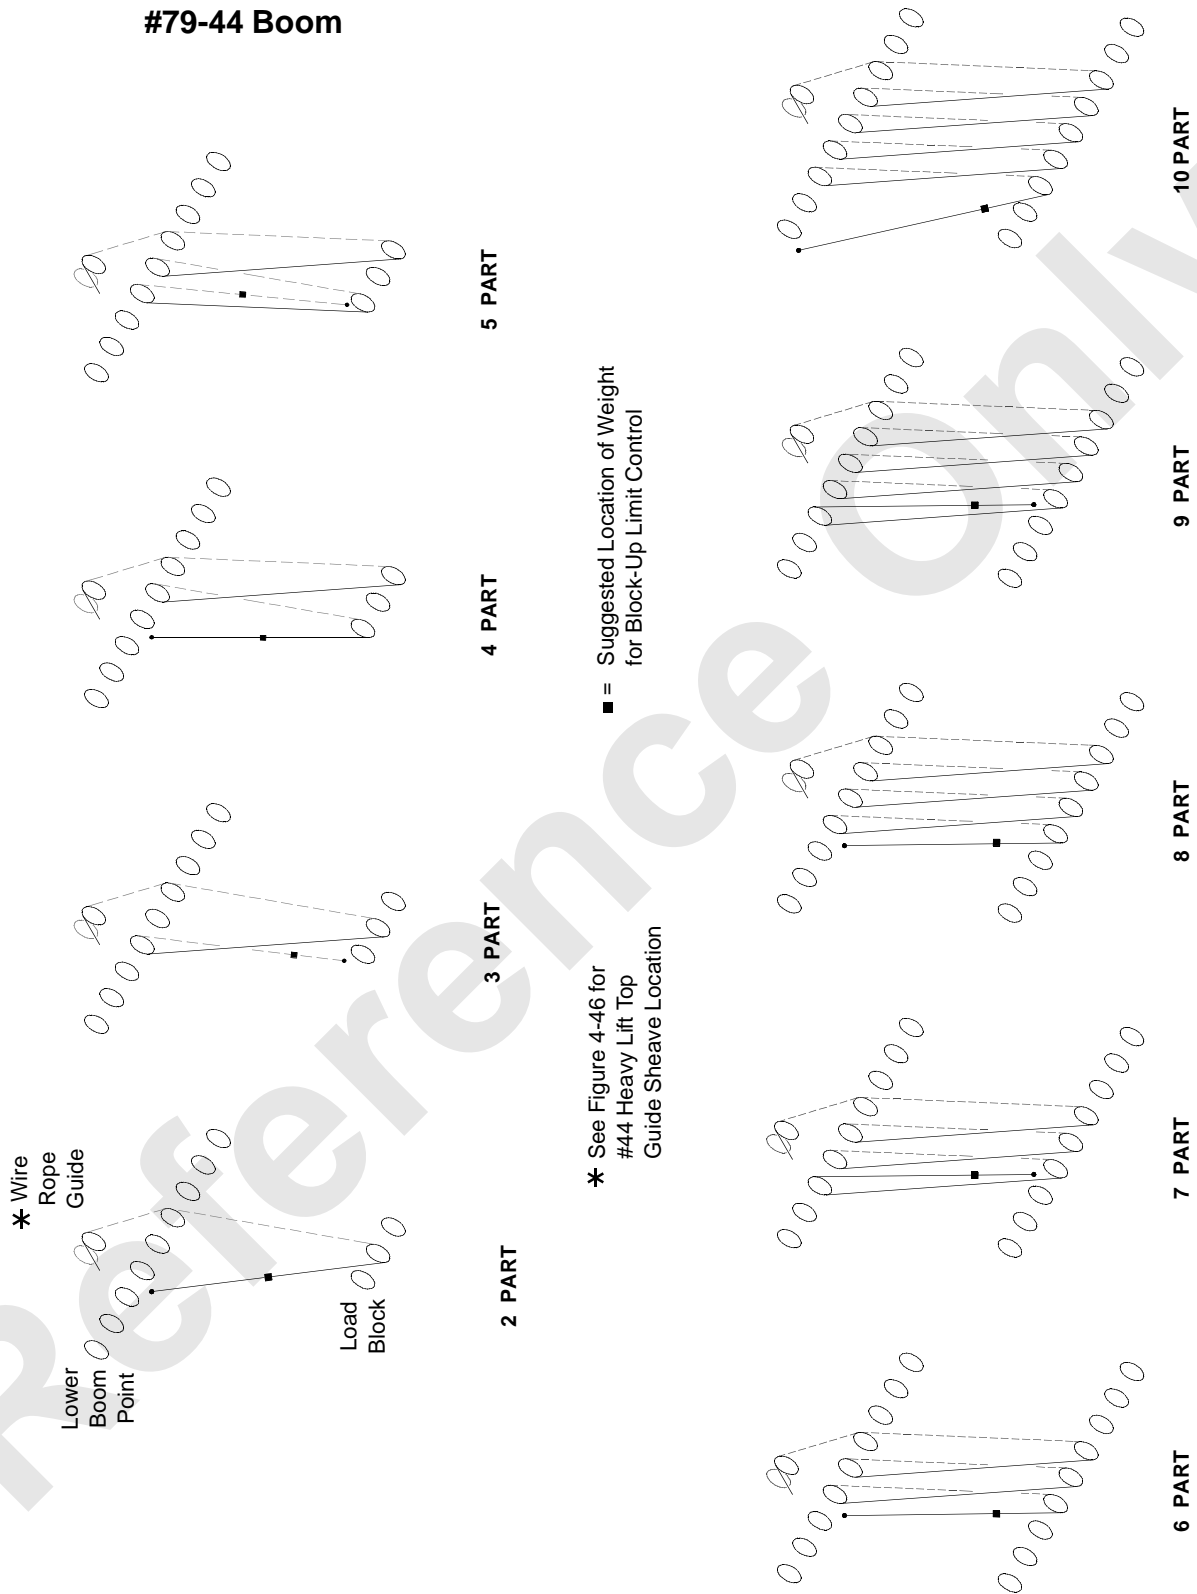

FIGURE 4-50
- #79-44 Boom — see Figure 4-50 for recommended reeving.
FIGURE 4-50 continued